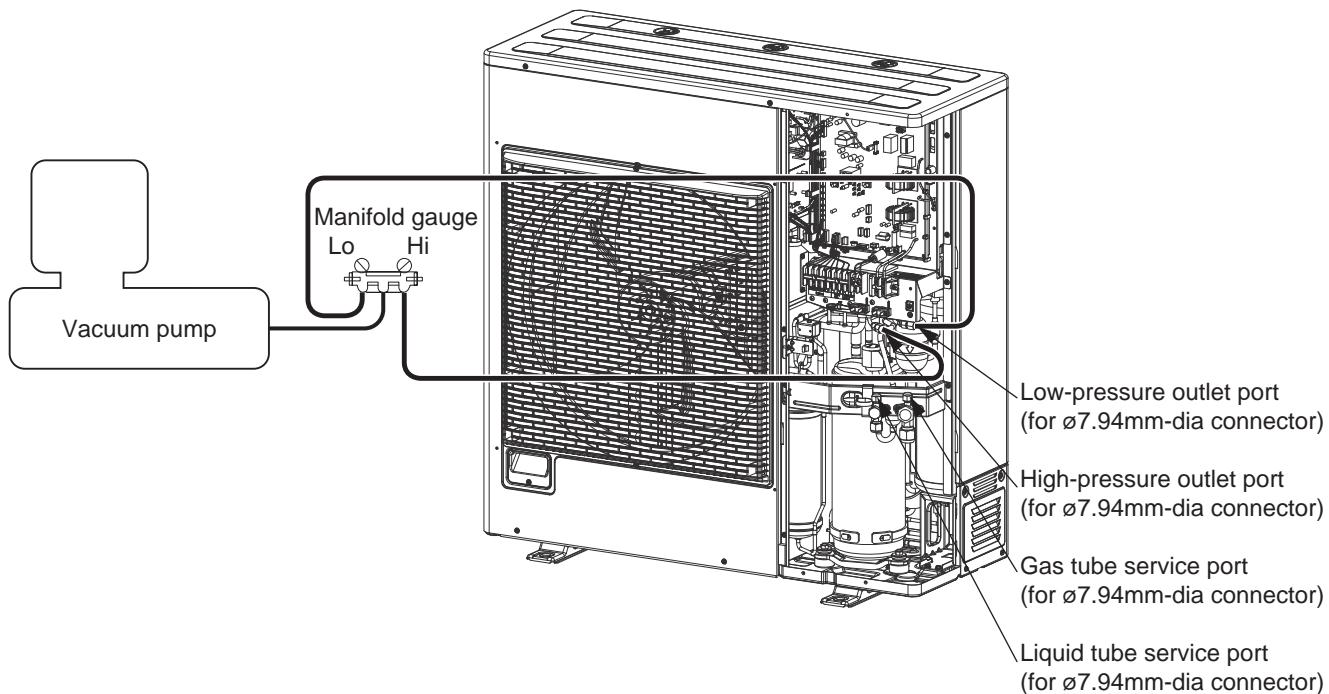

Fig. 6
- (1) Check that each service valve of the gas tube and liquid tube in the outdoor unit are fully closed.
- (2) Connect the manifold gauge valves to the high-pressure and low-pressure sensor outlets of the outdoor unit. (Fig. 6)
- (3) Connect the manifold gauge valves to the vacuum pump.
- \* If the AP pin on the outdoor control PCB has already been short-circuited, step (4) is not necessary.
- (4) Turn off power to the repaired outdoor unit and short-circuit the AP pin on the outdoor control PCB.